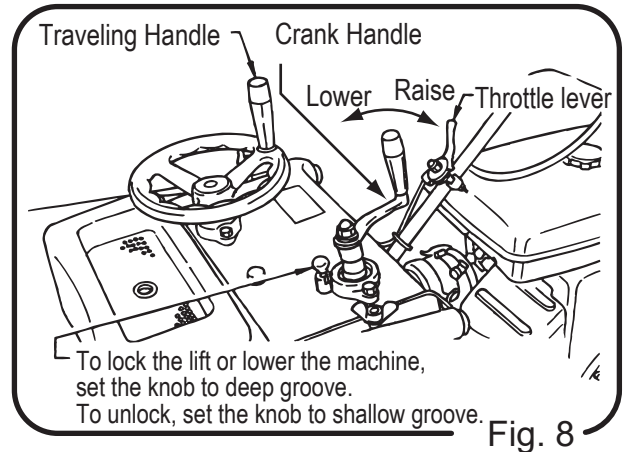

Fig. 8
7.10. How to lift or lower the machine: (Fig. 8)
- 8.2.2. Move the speed control lever slowly to the normal operation and set the engine speed at high speed. (Fig. 8)
- 8.2.4. To cut-in with the blade at the bottom, turn Crank handle to the counter clockwise, and cut down while adjustment the lowering speed so that engine speed is not reduced excessively. After cutting down, set the knob to the lock position which located beside of Crank handle to lock the machine. (Fig. 8)